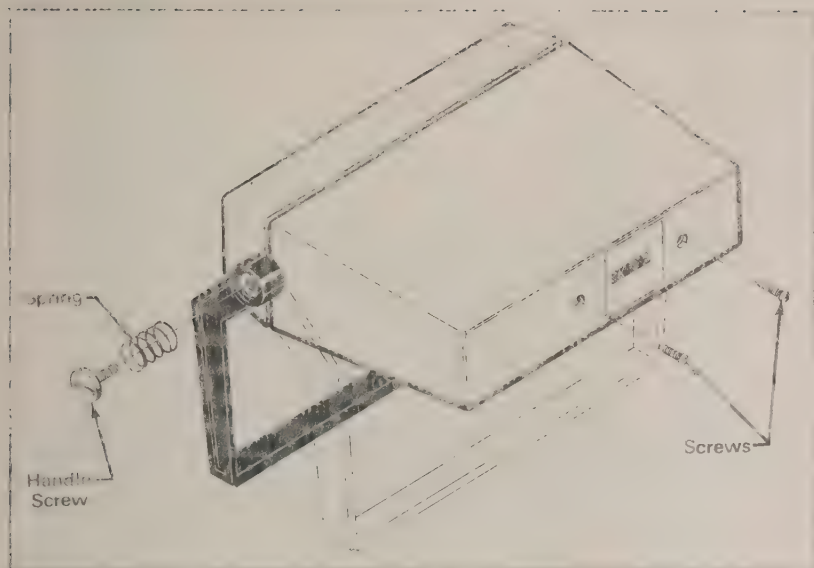

Fig. 19. Removal of rear case.
1. Turn the main (1/4 turn) wrench handle to rotate the case screws. But hold the handle to be sure. Use caution to avoid losing the screws beneath the screw. Then hold the handle on the case. Remove the handle. The handle may be reversed if the user desires. Refer to Fig. 19.